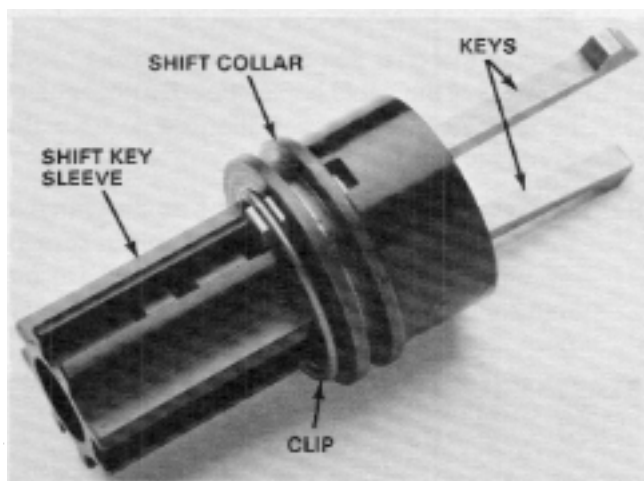

Figure 67
5. Coat the shift key sleeve with grease and prepare the shift keys, shift collar, and spring clip for assembly as shown in Figure 67.